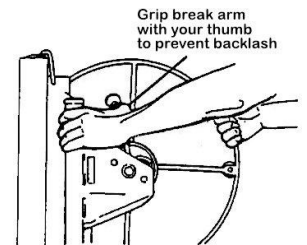

Figure 3
- b) Lift the brake arm all the way up. Grab the winch and hold the brake rod firmly with your thumb to prevent it from rebound (Fig. 3).